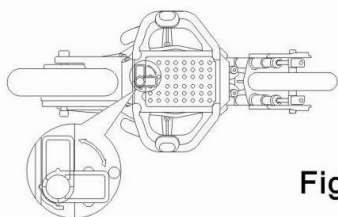

Fig4
- 1.Headstand the body, rotate the battery cover press button outside the battery cover, remove the battery cover. (Figure 4)